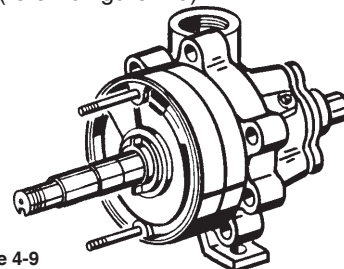

Figure 4-9
11. Slide an interstage bushing (#16B) onto the shaft; the smooth wearing face should be installed against the ring (#9B). (refer to figure 4-9)